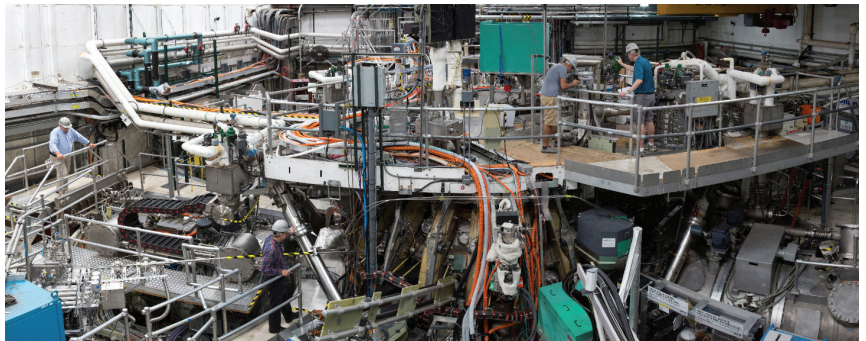

Figure 2. The DIII-D tokamak is surrounded by complex systems and components, which are exposed to strong magnetic fields.
In San Diego, USA, General Atomics (GA) operates the DIII-D National Fusion Facility on behalf of the U.S. Department of Energy as part of an ongoing effort to achieve magnetically confined fusion. As a user facility (Figure 2), the DIII-D tokamak hosts over 650 researchers from around the world to carry out cutting-edge fusion research.
For example, while the internal magnetic fields in the DIII-D tokamak had already been mapped, the operations team had to rely on simplified magnetic field maps for the external fields (Figure 2). Torreblanca explained: "The tokamak is surrounded by many components and systems and the magnetic field can generate forces and currents these systems. Analysis and simulation helps avoid potentially costly damage and delays in the research program."